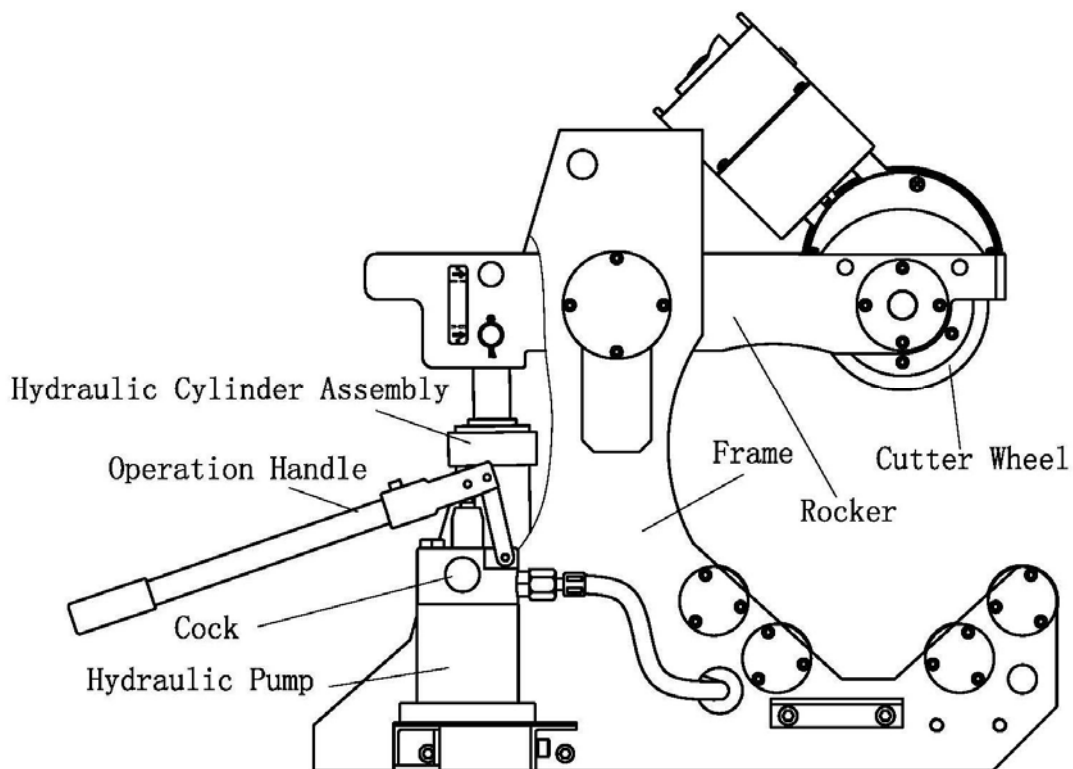

Fig.1
4.1.2 Before operation, operate the operation handle to check the hydraulic pump if it is normal or not. (See Fig.1)